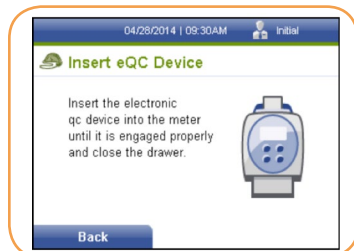

FIGURE 110
- Press the right soft key to select Run eQC. The *Insert eQC Device* screen is displayed (Figure 110).